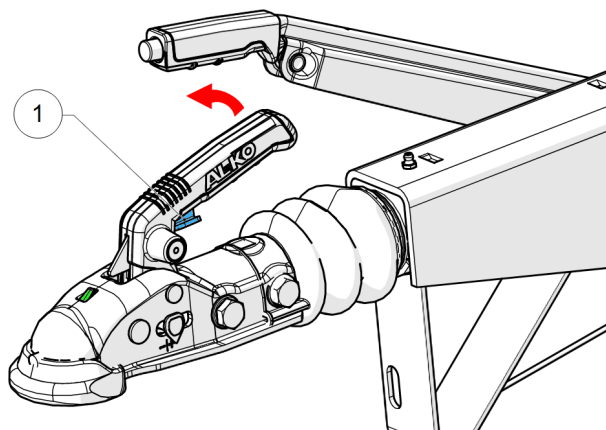

Figure 22 - Tow hitch handle
5. Hold the handle on tow hitch, squeeze the catch (1, Figure 22) with your forefinger and lift the handle.